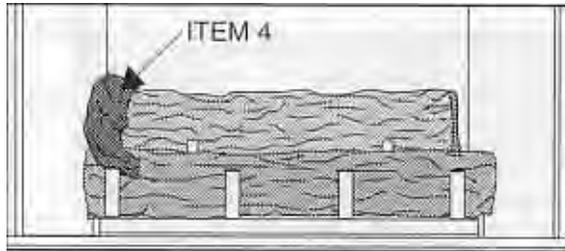

Figure 43
4. See Figure 43. Position one of the "hooked" logs (Item 4), with the "hook" toward the front. Place the log to the left end of both the Front and Back Logs. The "Hook" will lay on the left end of the Front Log and the "straight" end will lay on the left end of the Back Log.